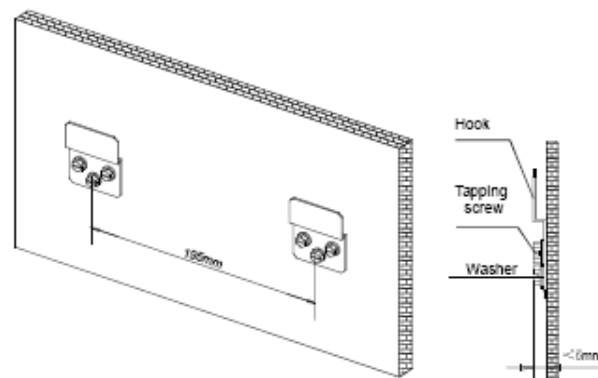

Fig.5-3
- Fix the hook with tapping screw onto the wall. (Refer to Fig.5-3)